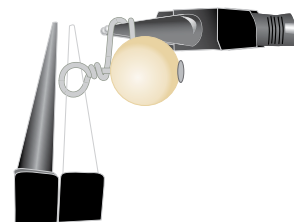

FIG. 22
6. With your round-nose pliers still in the loop, grasp the end of the wire with a pair of flat- or chain-nose pliers and wrap the tail of the wire around the wire under the loop 2 or 3 times, filling the space between the loop and the bead (FIG. 22).